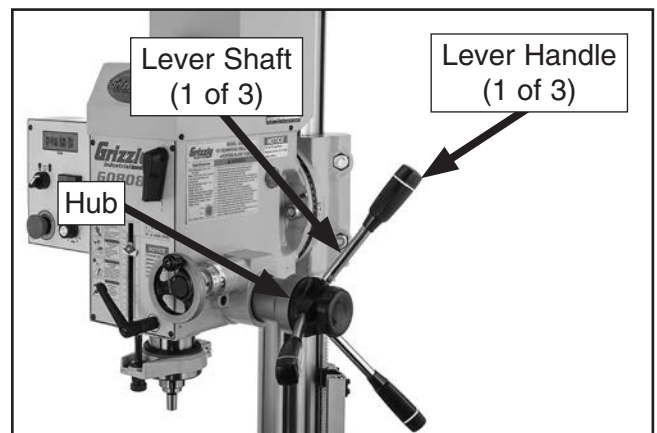

Figure 19. Coarse downfeed lever shafts and handles installed.
5. Install coarse downfeed lever shafts and handles onto coarse downfeed hub (see **Figure 19**).
6. Slide X-axis leadscrew gear onto X-axis leadscrew and tighten set screw (see **Figure 19**).